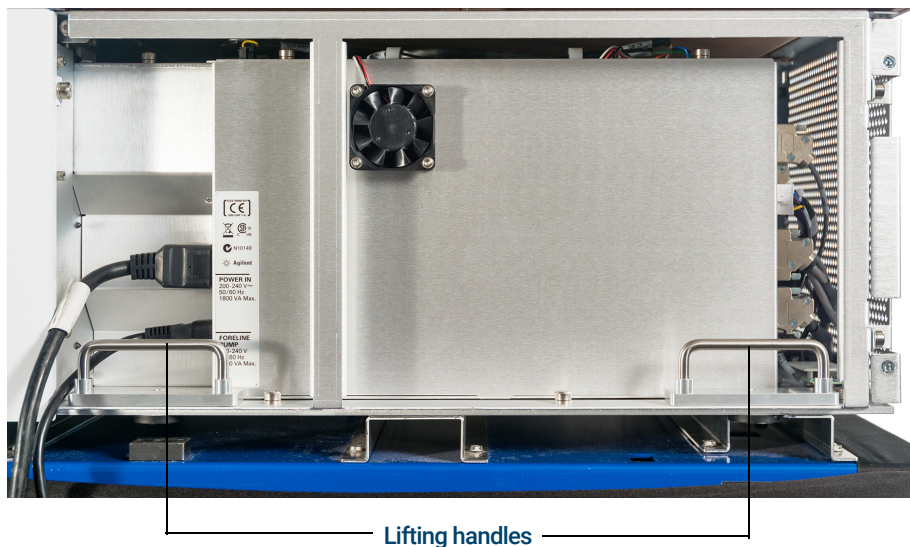

Figure 15. Left side lifting handles
- 5 Remove this cover to access the handle. (See Figure 15.)